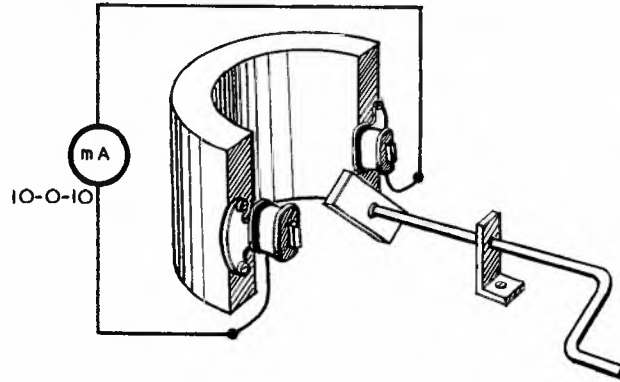

FIG. 2.
- STEP 6. Disconnect the apparatus. Connect the variable reluctance generator model to the centre scale milliammeter (Fig. 2).